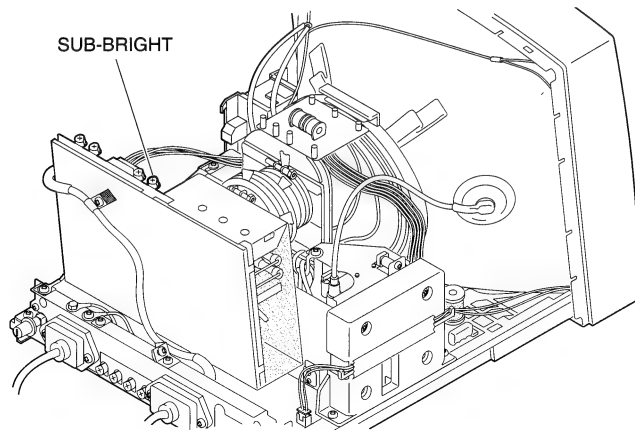

Figure 7 SUB-BRIGHT Control
5. FIGURE 7. Turn the SUB-BRIGHT control (VR202) all the way down (counterclockwise).